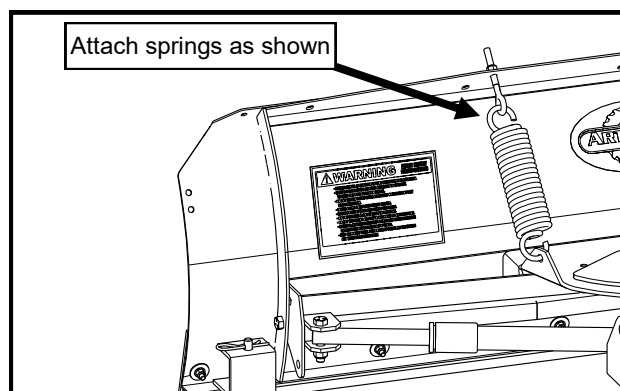

Fig. 2.1—Trip Spring Installation
- 2.1 Locate the two trip springs, two eye bolts, two 3/8-16 Nylon lock hex nuts, and two 3/8" washers. Per Fig 2.1, hook one end of the trip spring through the lower trip spring mount. Hook the eyebolt on the other end of the spring and insert the threaded section up through the hole in the upper spring mount. Install a 3/8" washer, then a 3/8" Nylon lock hex nut on the eyebolt. Repeat above for the second trip spring.